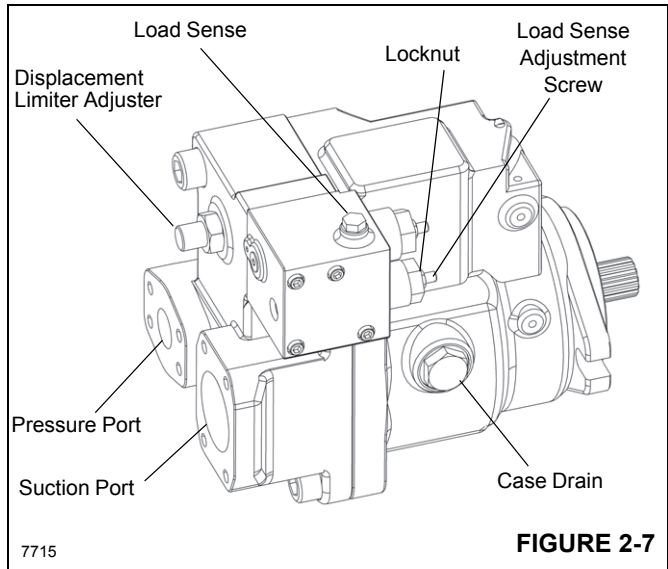

FIGURE 2-7
4. If swing pressure is not correct, adjust Main Relief (Figure 2-7) as follows: Loosen 1/2 in locknut and use 4 mm Allen wrench to adjust setting. Turning clockwise increases the setting. Each turn gains 11 bar (153 psi). Be sure to tighten the locknut to 17.7 Nm (4 lb-ft) to secure the setting.
3. Adjust the LS adjusting screw (Figure 2-7) on the pump until the Pump Margin Pressure setting is correct.